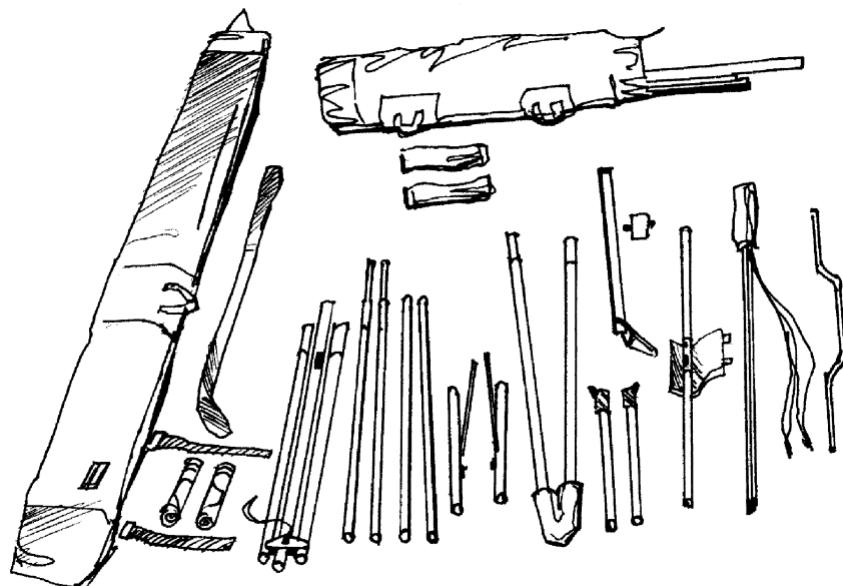

Fig. 1
2.1.3. Place parts of the frame in conformity with (Fig. 1). Undo the zipper on the bag and move the sail.